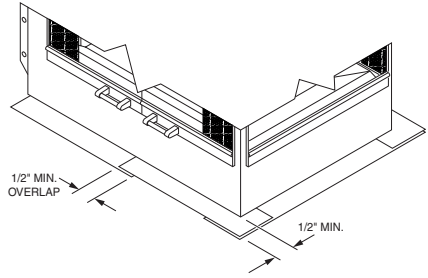
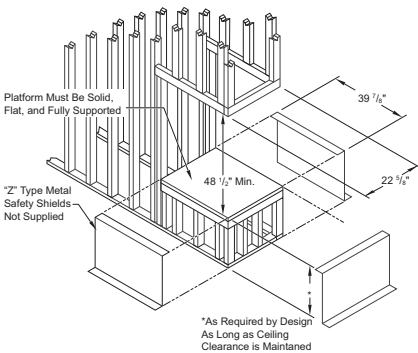
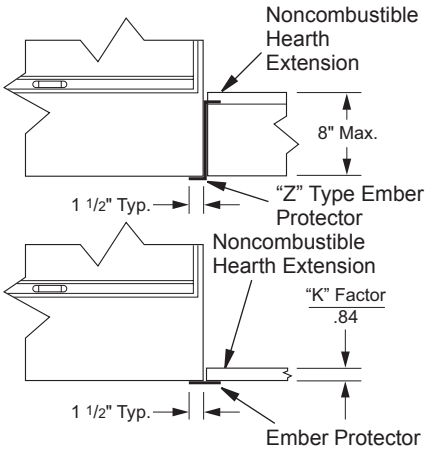

Figure 7 - Ember Protectors
Figure 6 - Framing Firebox with "Z" Type Ember Protectors
Figure 10 - Raised Hearth Extension
- Before securing fireplace to prepared framing, ember protector (provided) must be placed between hearth extension (not supplied) and under bottom front edge of fireplace to protect against glowing embers (see Figure 7). If fireplace is to be installed on a raised platform, a Z-type ember protector (not supplied) must be fabricated to fit your required platform height (see Figure 6). The ember protector should be made of galvanized sheet metal (28 gauge minimum) to prevent corrosion.
If hearth extension is to be raised, a "Z" type ember protector must be used (see Figure 6 and Figure 10, page 6)